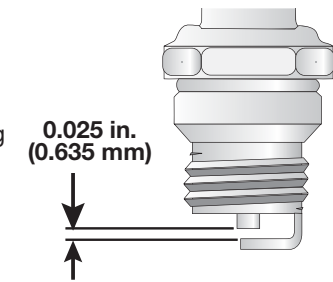

Fig. 35
4. Replace cracked, fouled or dirty spark plug. Set the air gap at **0.025 in. (0.635 mm)** using a feeler gauge (Fig. 35).